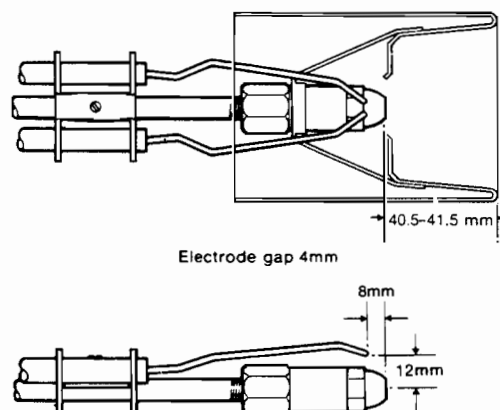

Fig. 4
- 6.7. Clean the electrodes. Check the settings and adjust if necessary. See Fig. 4.
- 6.9. Check the setting of the combustion head, Fig. 4.